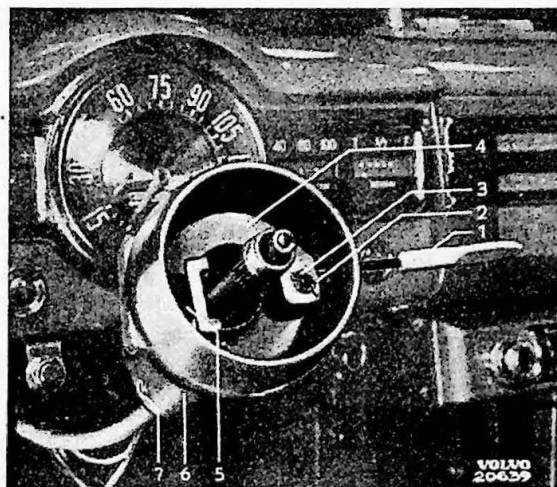

Fig. 18.
2. Screw out the arm (1, fig. 18) on the lever (4). Remove the cotter pin (2), washer (3) and lift the lever and rubber stop (5) out of the housing (6).
5. Loosen the retainer screw (7, fig. 18) entirely and slide the housing off the steering column. Remove switch and cable.